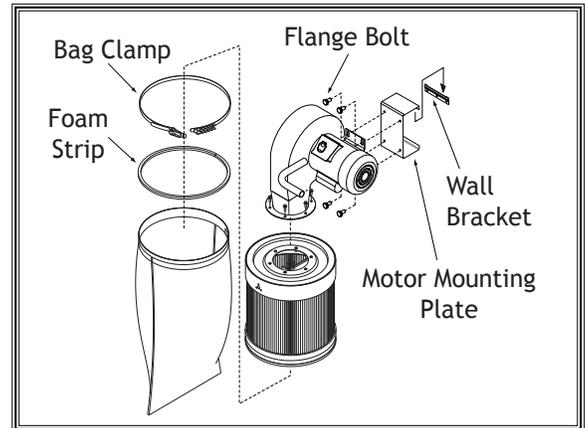

Figure 8. Dust collector assembly diagram.
1. Fasten motor mounting plate to motor base with (4) 1/4-20 x 1/2" flange bolts (see **Figure 8**).
4. Apply foam strip to outside bottom of canister filter (see **Figure 8**).
5. Install dust-collection bag with bag clamp (see **Figure 8**) over foam strip, then connect ducting. Refer to **Collection System** on next page for grounding requirements.